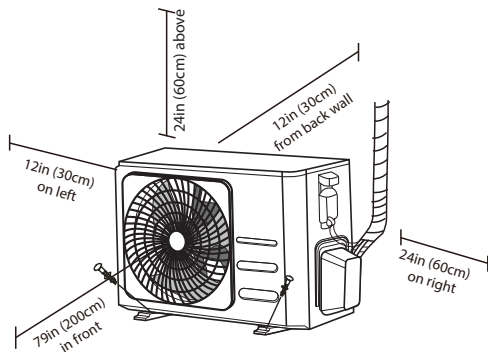

Fig. 11 — Unit Clearances
- Meets all clearance requirements (see Figure 11).